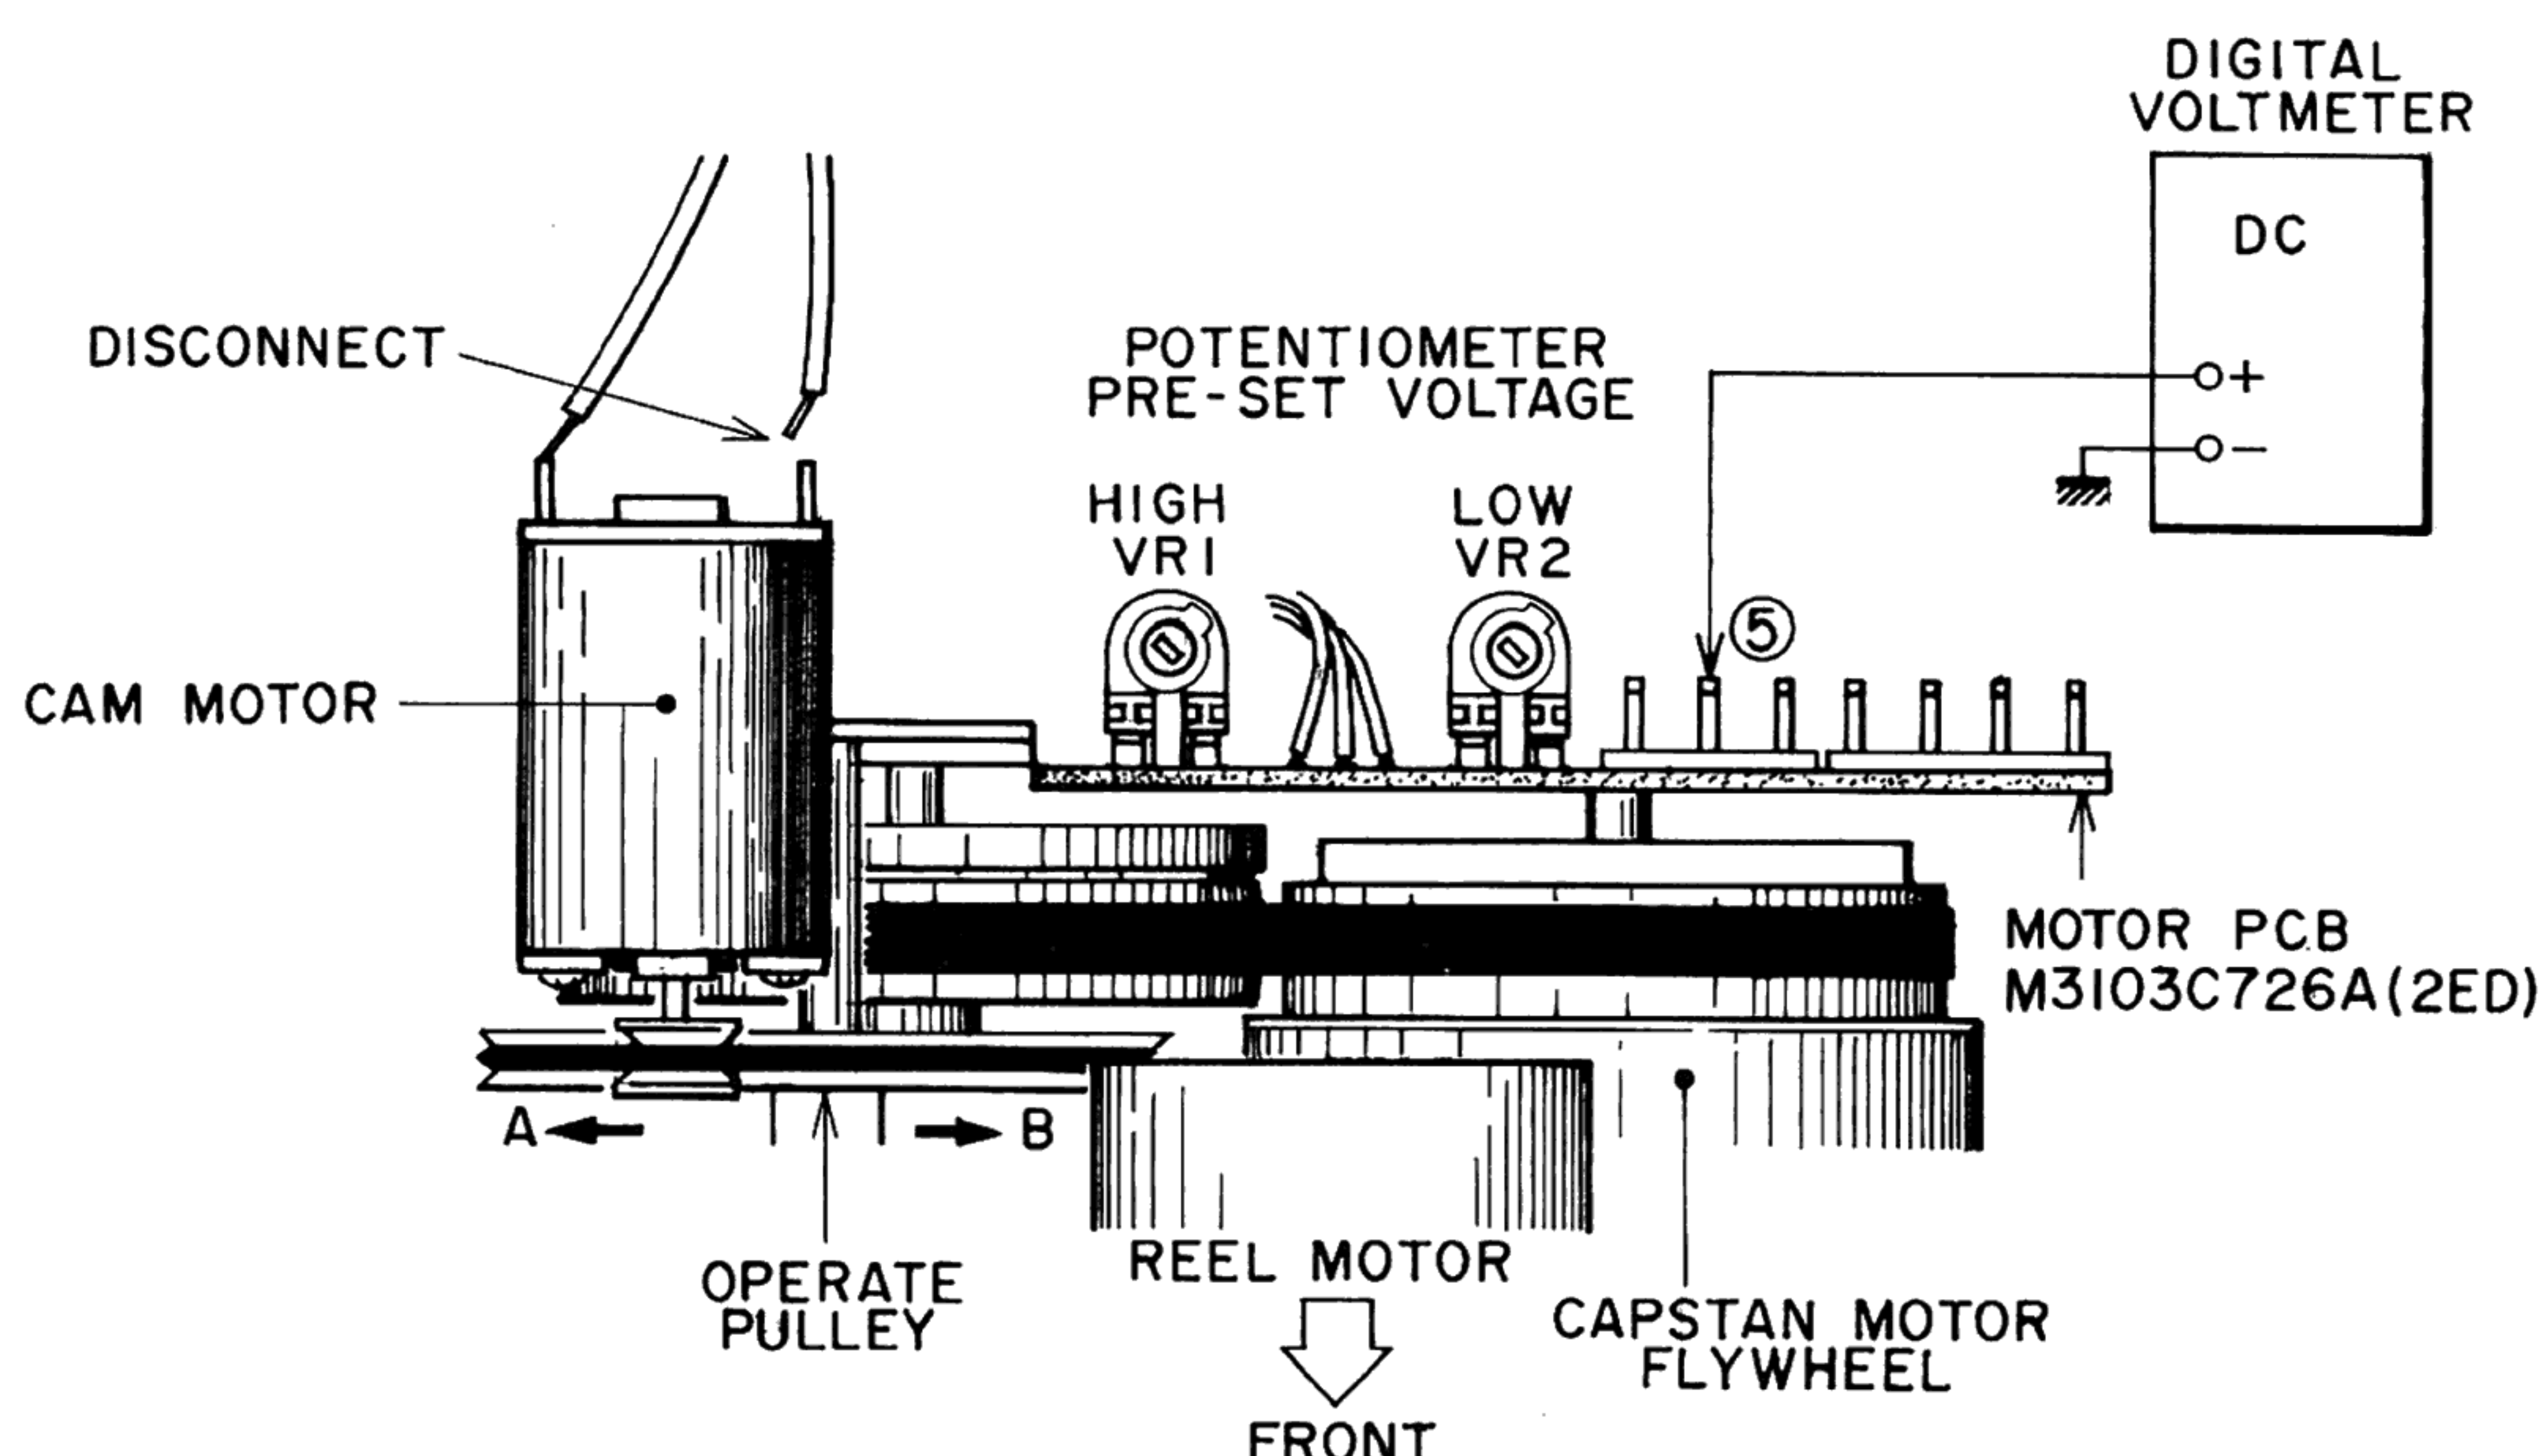
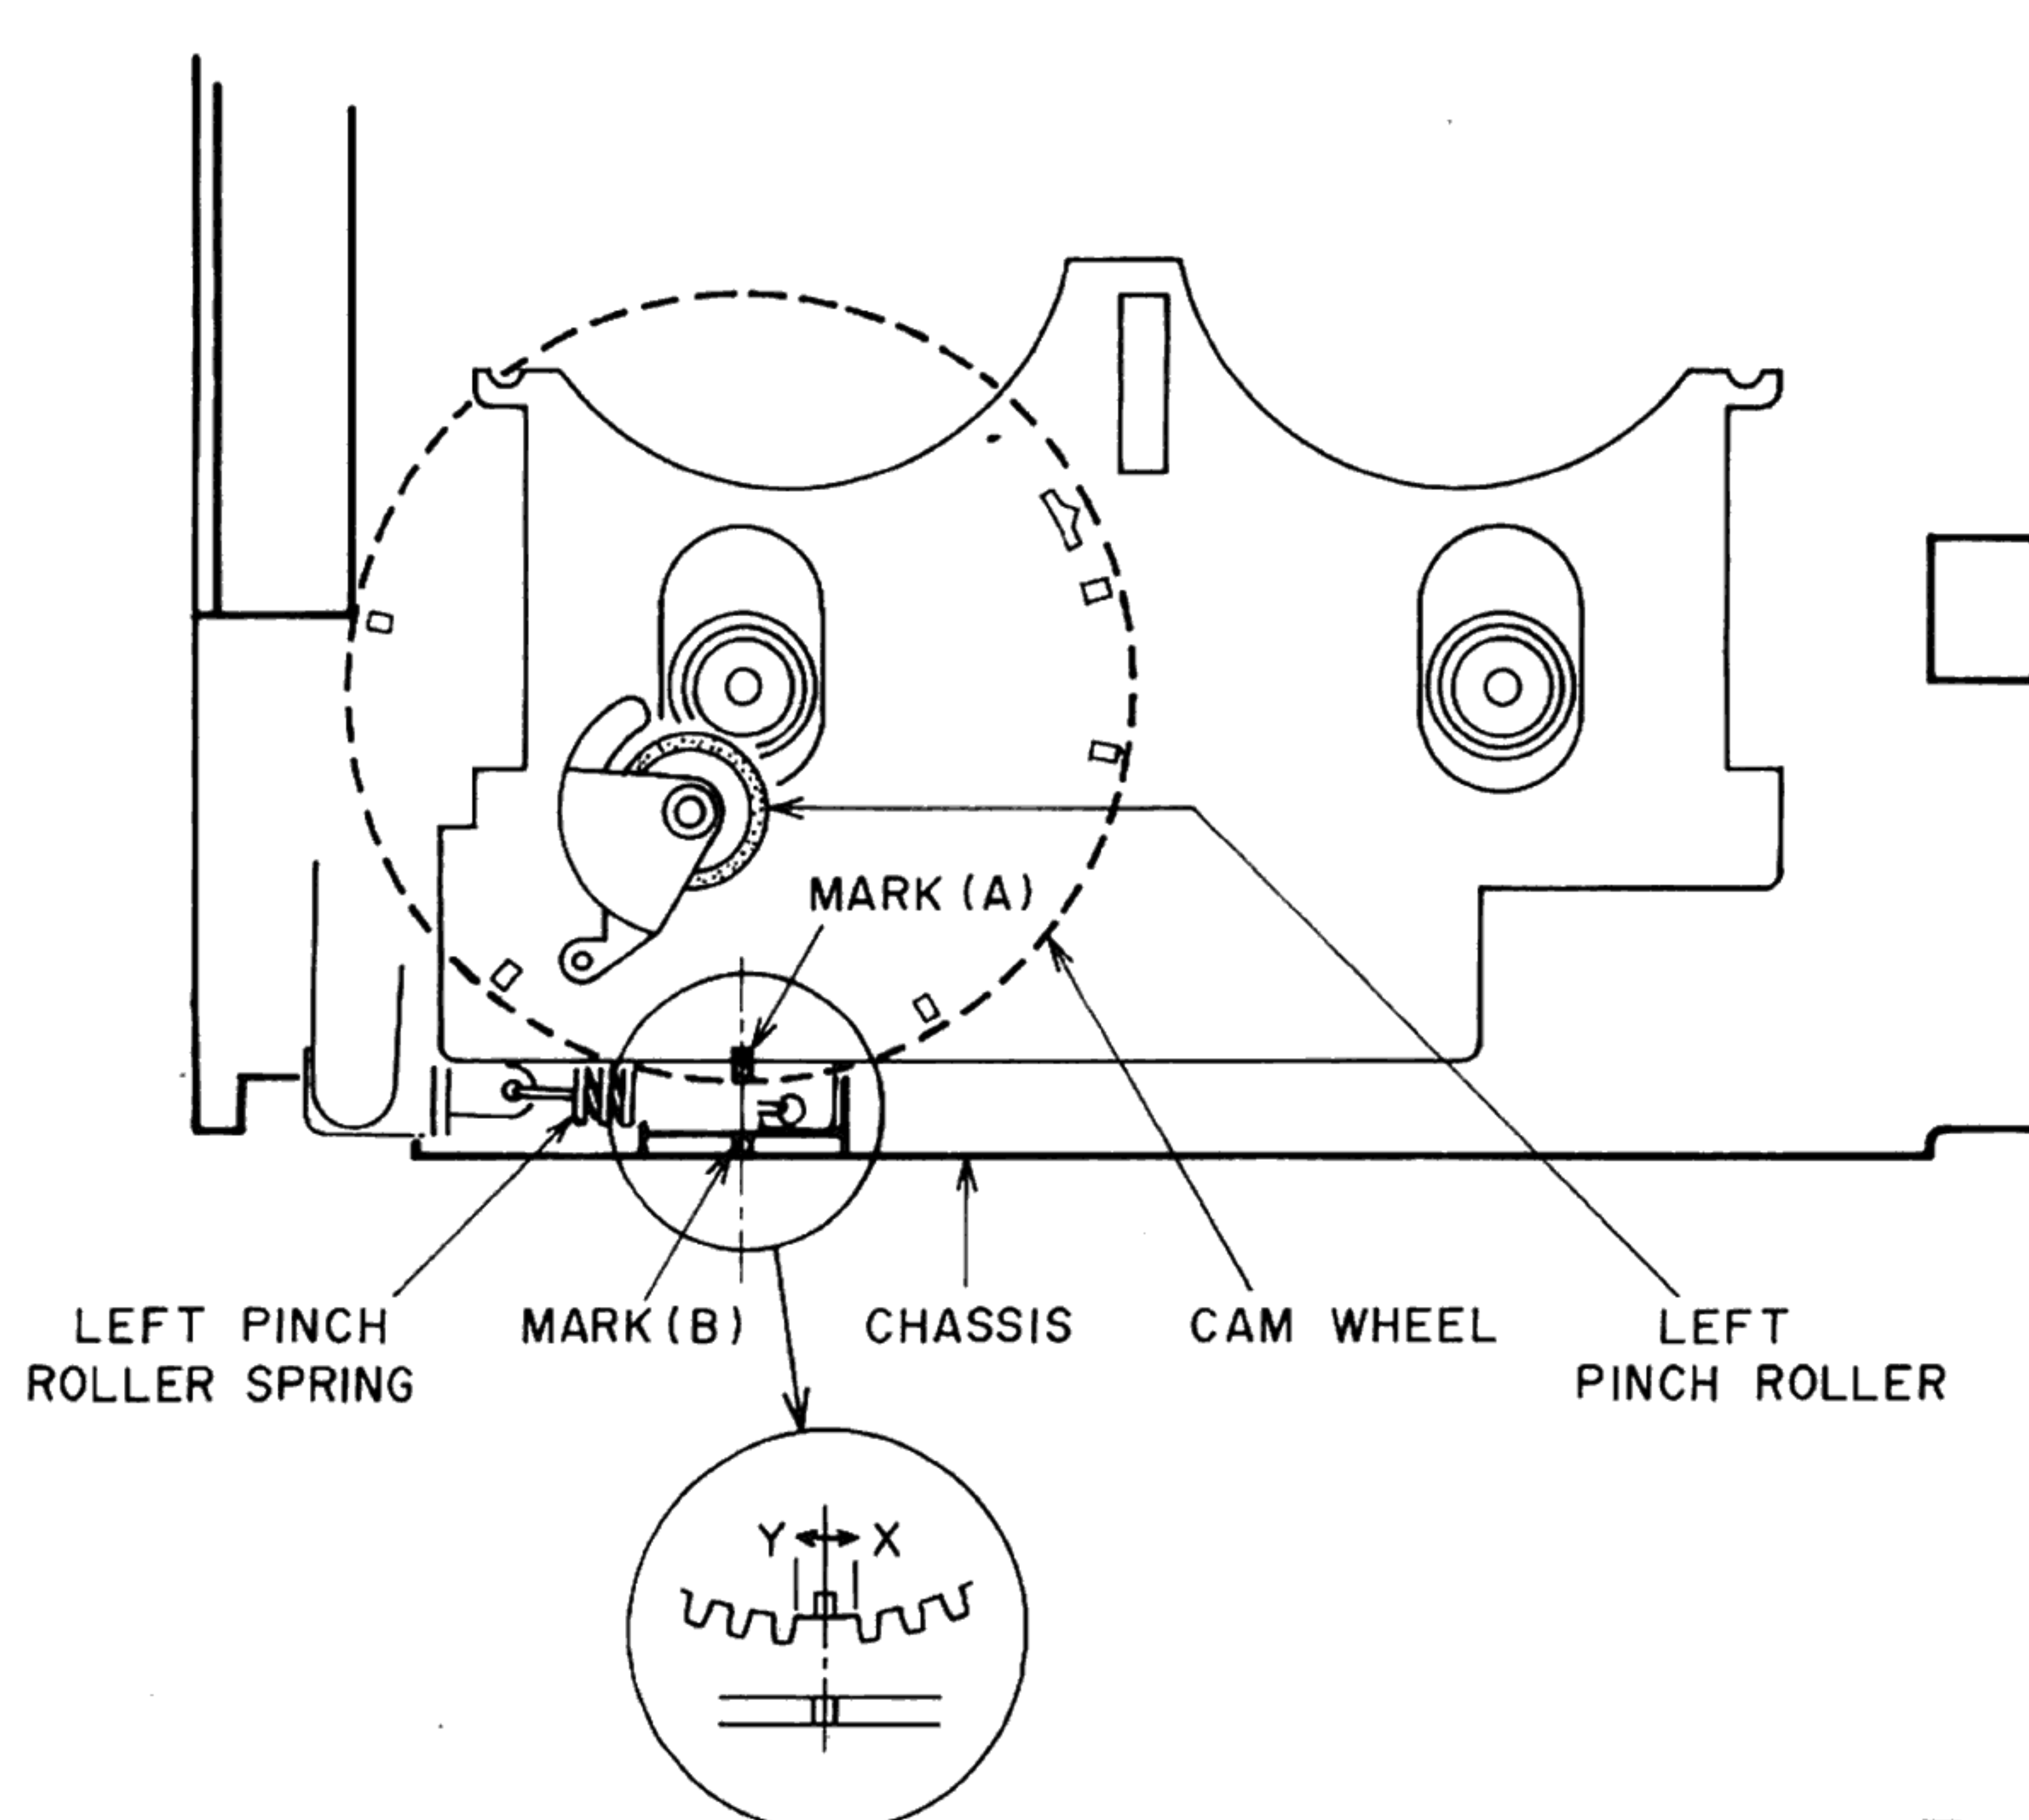

Fig. 5-5
Fig. 5-6
5-5. POTENTIOMETER PRESET VOLTAGE ADJUSTMENT (Refer to Figs. 5-5 to 5-6)
- Connect the digital voltmeter as shown in Fig. 5-5.
- With power ON, adjust VR2 so that the voltage reading will be 0.94V (DC).
- With power ON, adjust VR1 so that the voltage reading will be 8.08V (DC).
- Adjust VR1 slightly so that the center of Marker (A) coincides with the center of Marker (B) (should be within the range between X and Y) at STOP Mode as shown in Fig. 5-6. (The marker (STOP) on the CAM WHEEL can be seen clearly by lighting it from the back.)